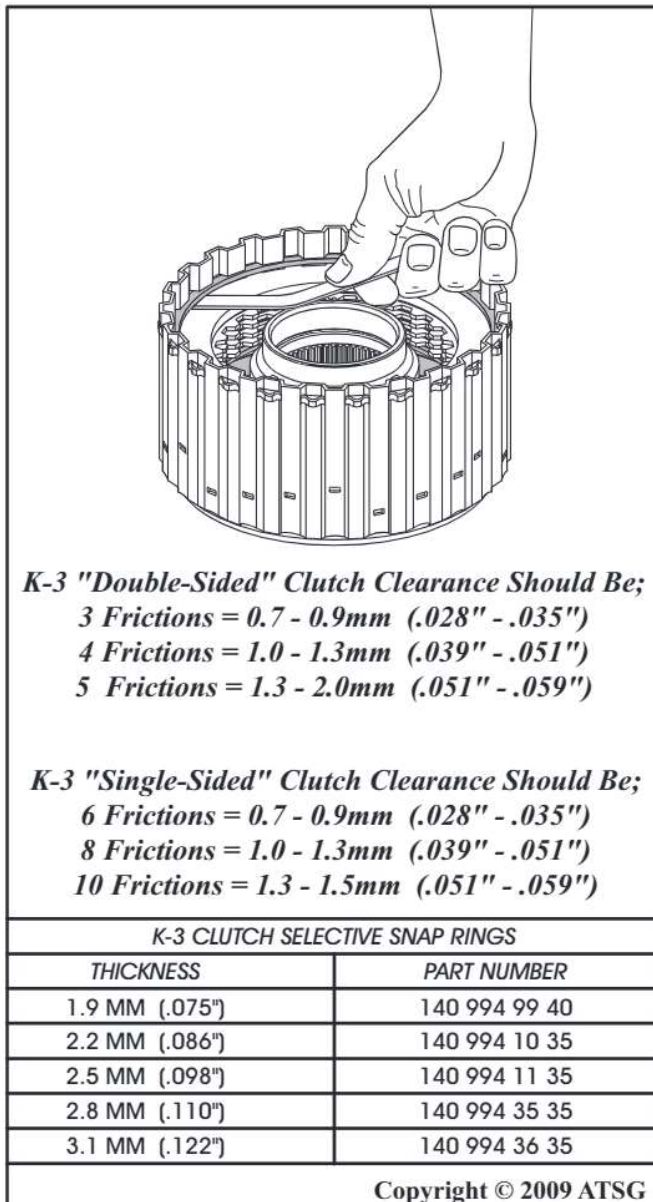

Figure 139
34. Measure K-3 clutch clearance using a feeler gauge between the selective snap ring and the backing plate, as shown in Figure 139.
35. K-3 clutch clearance will depend on how many friction plates are used in the pack. The proper clearances for each are listed in Figure 139.
36. Change the selective snap ring as necessary to obtain the proper clutch clearance. There are 5 different snap ring thickness' available and are listed in Figure 139.